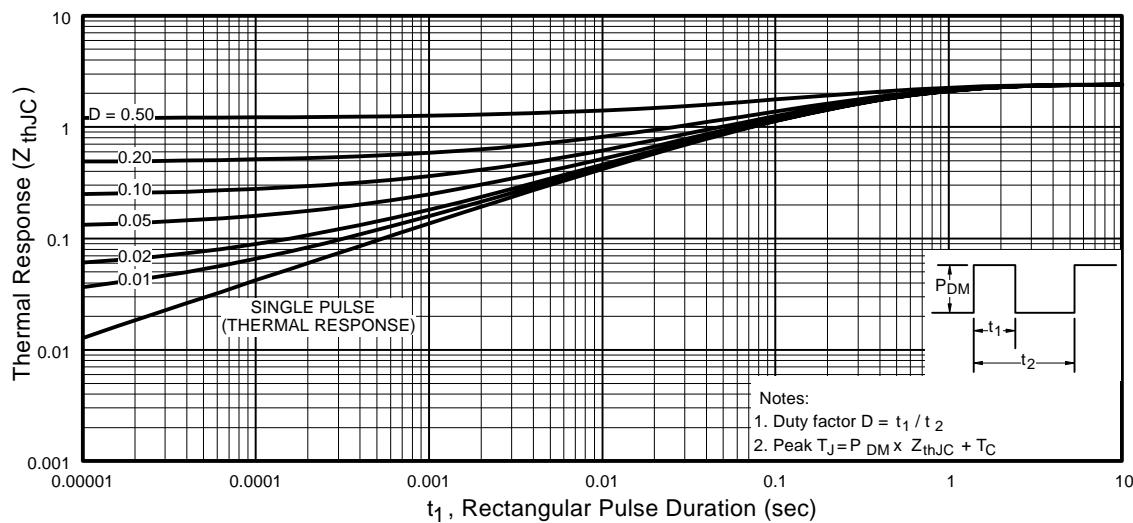

Fig 11. Maximum Effective Transient Thermal Impedance, Junction-to-Case
- ① Repetitive rating; pulse width limited by max. junction temperature. (See fig. 11)
- ② $V_{DD} = 25V$, starting $T_J = 25^\circ\text{C}$, $L = 1.4\text{mH}$ $R_G = 25\Omega$, $I_{AS} = 28A$. (See Figure 11)
- ③ $I_{SD} \leq 28A$, $di/dt \leq 460A/\mu\text{s}$, $V_{DD} \leq V_{(\text{BR})\text{DSS}}$, $T_J \leq 175^\circ\text{C}$
- ④ Pulse width $\leq 300\mu\text{s}$; duty cycle $\leq 2\%$.
- ⑤ $t=60\text{s}$, $f=60\text{Hz}$
- ⑥ Uses IRF3710 data and test conditions